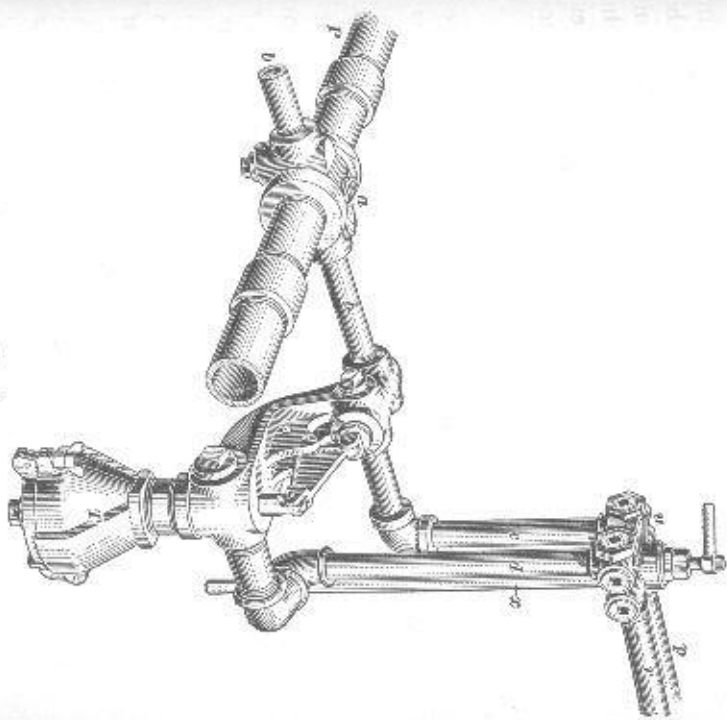

FIG. 2
3. Piping Arrangement.—Fig. 1 shows the arrangement of piping for a steel passenger coach, while Fig. 2 illustrates the method of piping the vapor regulator valves. In the illustrations, y, y are the hose couplings; v, v , the end train-line valves; P is the train line; a , the strainer cross; and x , the cut-out-valve drip pipes. On each side of the car, T is the vapor regulator and trap; u, u are the vapor cut-out valves; and b, b and r are the radiating pipes. The radiation shown in the illustration consists of one three-pipe coil and one two-pipe coil for each side of the coach. When the end train-line valve v nearest the locomotive and the cut-out valves u are open, steam from the locomotive boiler passes into the train line P at reduced pressure, and will pass from the strainer cross a through the branch pipe b to the vapor regulator T on each side of the car, where the steam will be reduced to vapor at atmospheric pressure and will have a temperature of about 212° F. It will then pass through pipes c to the cut-out valves u , as shown in view (b), then through these valves to the lowest pipe of the three-pipe radiating coil p which leads to the fitting w at the end of the car. The steam will then enter the two upper radiating pipes p and pass to the opposite end of the car, flowing through the fitting w' and the lower return pipe to the left cut-out valve u , thence through the right cut-out
4. Vapor Regulator.—Fig. 3 is a sectional view of a No. 425 vapor-regulating valve; such a valve (with shield *c* removed) is shown in Fig. 2 as applied to the piping shown in Fig. 1.
and *z* is the entrance to the outer chamber. The hermetically sealed diaphragm *e* is about half full of a liquid that boils at a temperature of 180° F., and when this is confined and subjected to a temperature of between 200° and 212°, sufficient internal pressure is created to cause the diaphragm to expand about $\frac{1}{8}$ inch in thickness. The setscrew *f* is employed to adjust the position of the diaphragm, so that the expansion must be upwards and so may be utilized to actuate the automatic valve. The opening *5* is the one through which the supply of steam from the train line enters the heating system and, after passing the unseated valve *w*, goes to the cut-out valve *u*, Fig. 2, by way of the opening *d*. After the steam makes a circuit of the radiating pipes it returns to the vapor regulator at the connection *3*.